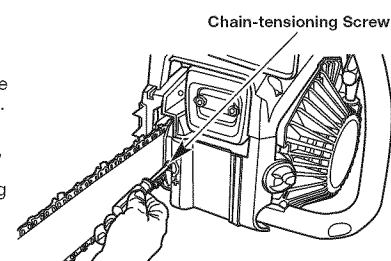

Fig. 32
3. Hold the guide bar tip up and rotate the chain-tensioning screw (Fig. 32) clockwise with a standard screwdriver to tension the chain. The desired tension depends on the temperature of the chain: